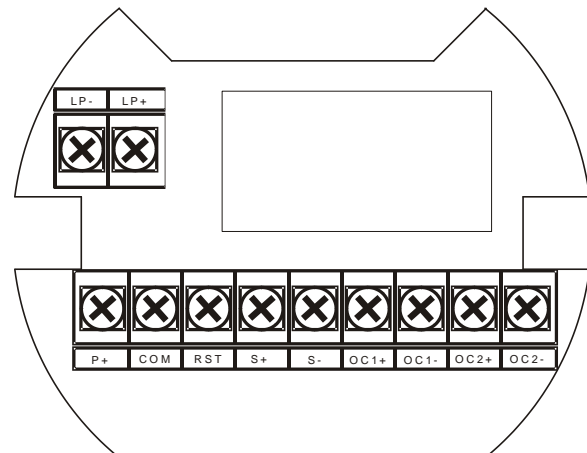

Figure 1. Connector Board
- Refer to Figure 1 for terminal positions.